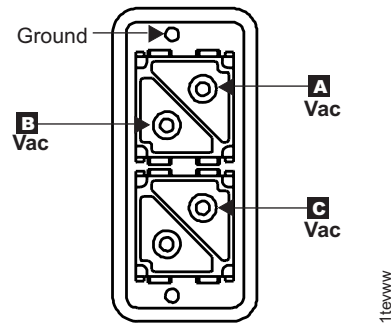

Figure 39. Mainline power cable connector
2. Measure the voltage between each pair of voltage pins on the female connector on each mainline power cable. Also, measure the voltage between each voltage pin (A, B, and C) and the ground pin on each mainline power cable. Refer to Figure 39 on page 43.